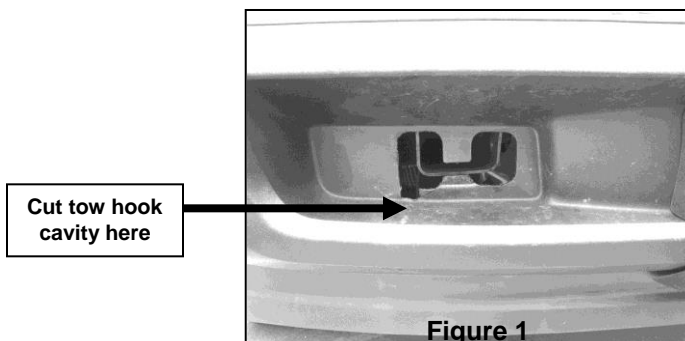

Figure 1
5. Using a sharp utility knife cutout an opening to allow Bull Bar Mounting Brackets to pass through tow hook cavity (Figure 1).